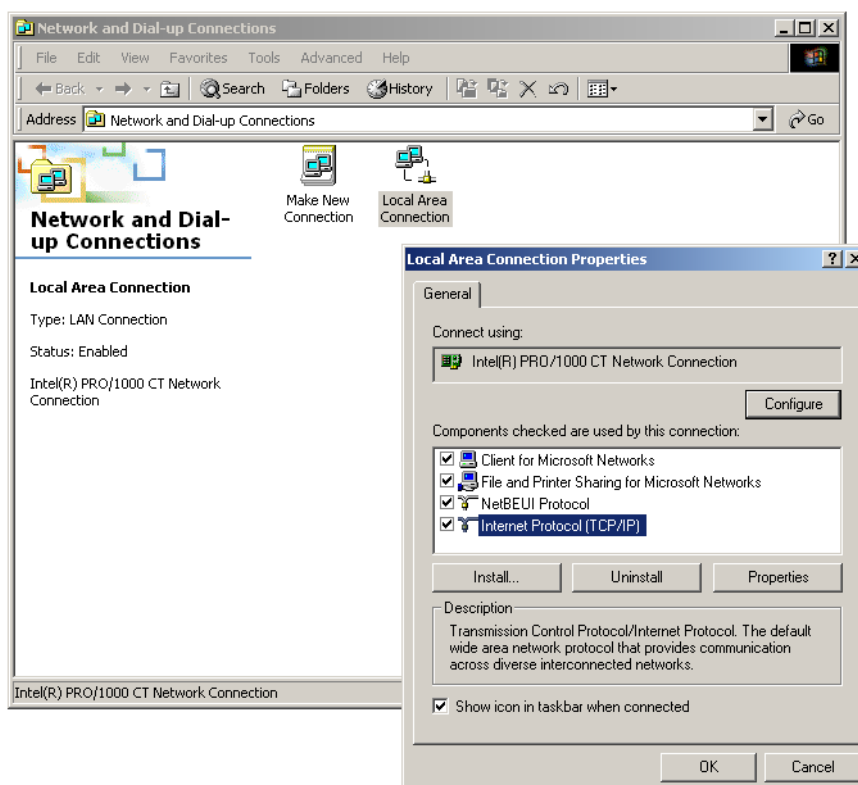

Fig.131 - Local Area Connection Properties
- 2) The window **Network and dial-up connections** appears. Click with the right mouse button on the icon **Local area connections**. Select the **Properties** item from the pull-down menu to let the window **Local area connection properties** appear (fig. 131).